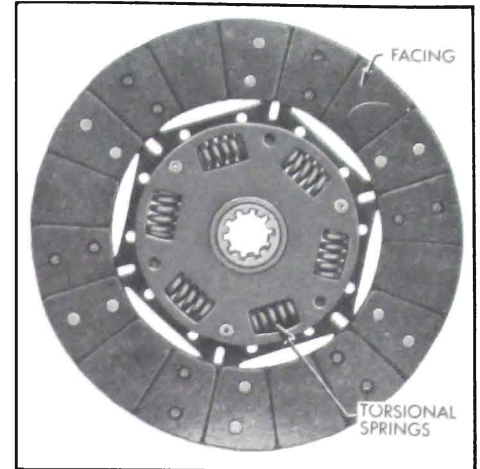

Figure 4-2—Driven Plate—Transmission Side
movement of pressure plate provides an additional clearance of approximately .030" to assure full release of driven plate. See Figure 4-2.
3. Clutch Driven Plate. Inspect driven plate for condition of facings, loose rivets, broken or very loose torsional springs, and flattened cushion springs. See Figure 4-2.